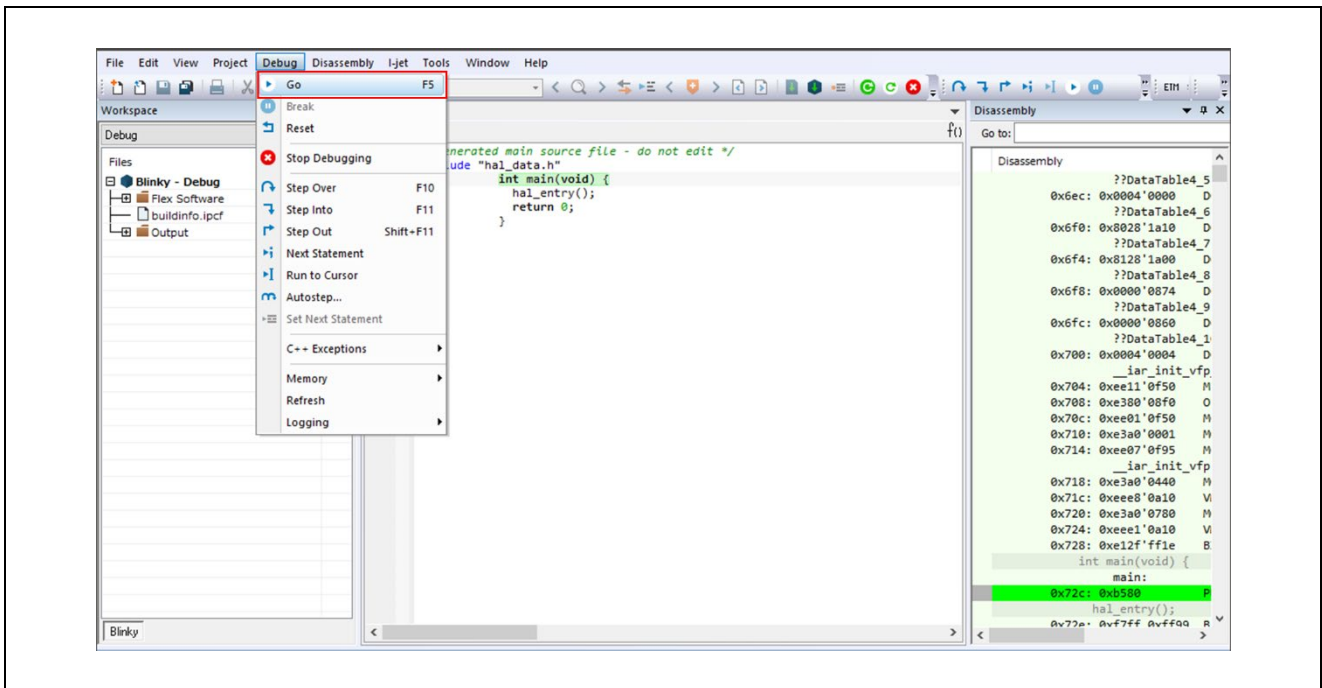

Figure 77 : Go Button
5. Run the program of primary project as shown in Figure 77 to copy the binaries of the secondary and subsequent projects to the internal RAM in the primary project. After the primary project reaches `hal_entry` in `main.c`, another core is executed. If the LEDs are blinking, proceed to the next step.